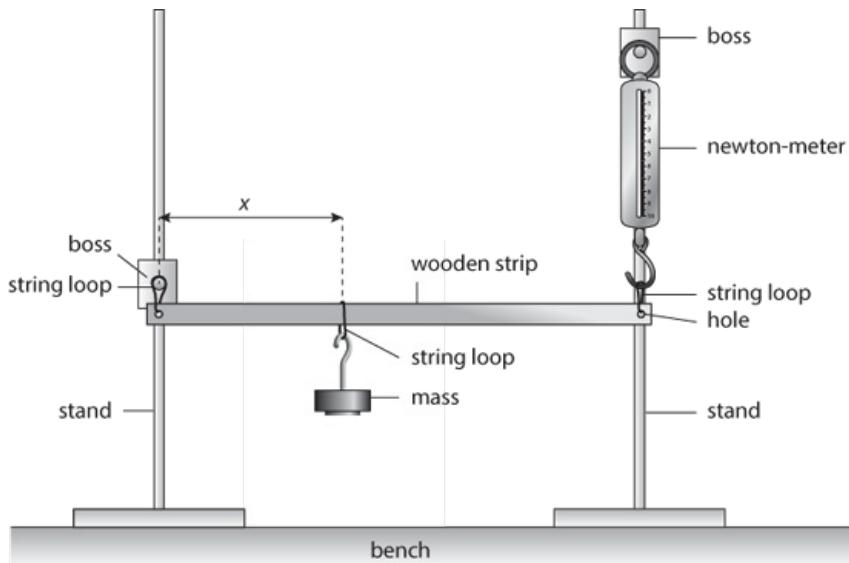

Figure 4.1: Wooden strip suspended, with weight and newton-meter.
- 1 Set up the apparatus as shown in Figure 4.1.